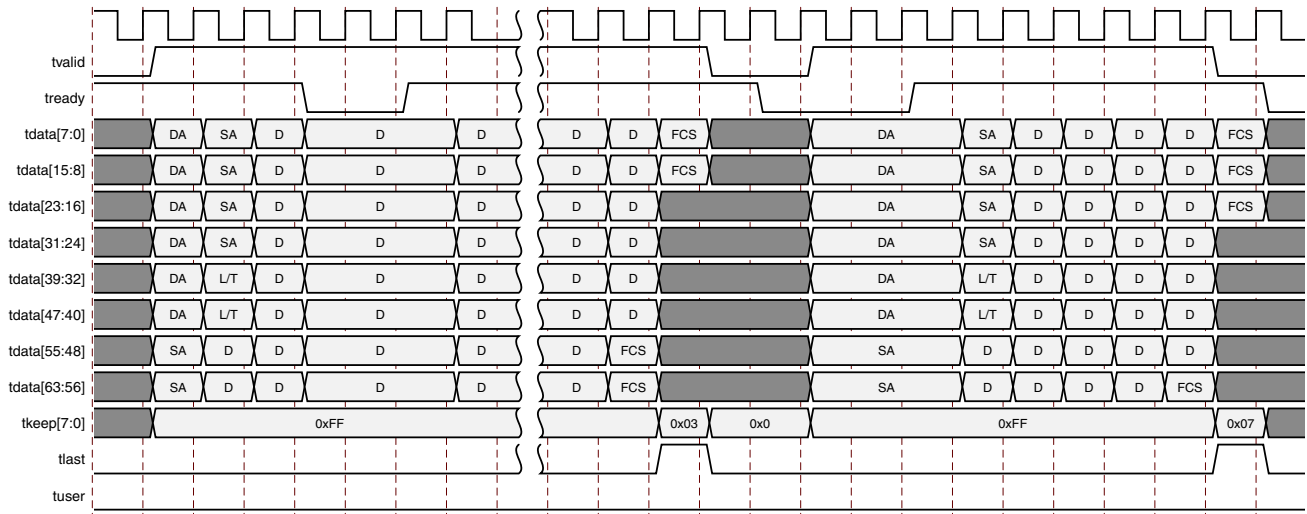

Figure 2-13: Normal Frame Transfer – 64 Bits
The timing of a normal frame transfer is shown in Figure 2-13. When the client wants to transmit a frame, it asserts the `tx_axis_tvalid` and places the data and control in `tx_axis_tdata` and `tx_axis_tkeep` in the same clock cycle. When this data is accepted by the core, indicated by `tx_axis_tready` being asserted, the client must provide the next cycle of data. If `tx_axis_tready` is not asserted by the core, the client must hold the current valid data value until it is. The end of the packet is indicated to the core by `tx_axis_tlast` asserted for 1 cycle. The bits of `tx_axis_tkeep` are set appropriately to indicate the number of valid bytes in the final data transfer. `tx_axis_tuser` is also asserted to indicate a bad packet. After `tx_axis_tlast` is deasserted, any data and control is deemed invalid until `tx_axis_tvalid` is next asserted.
- An explicit error in which a frame transfer is aborted by deasserting tx\_axis\_tuser High while tx\_axis\_tlast is High. [see Figure 2-13]